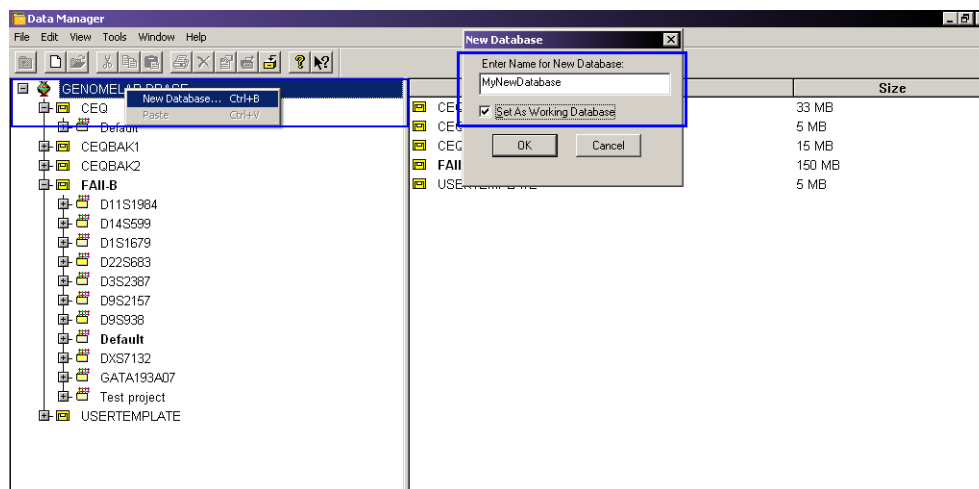

Figure 8.4 Checking the Database Size
2. Left-click the **GENOMELAB DBASE** node at the top of the left pane. The size for each database is shown in the right pane, as shown in Figure 8.4.